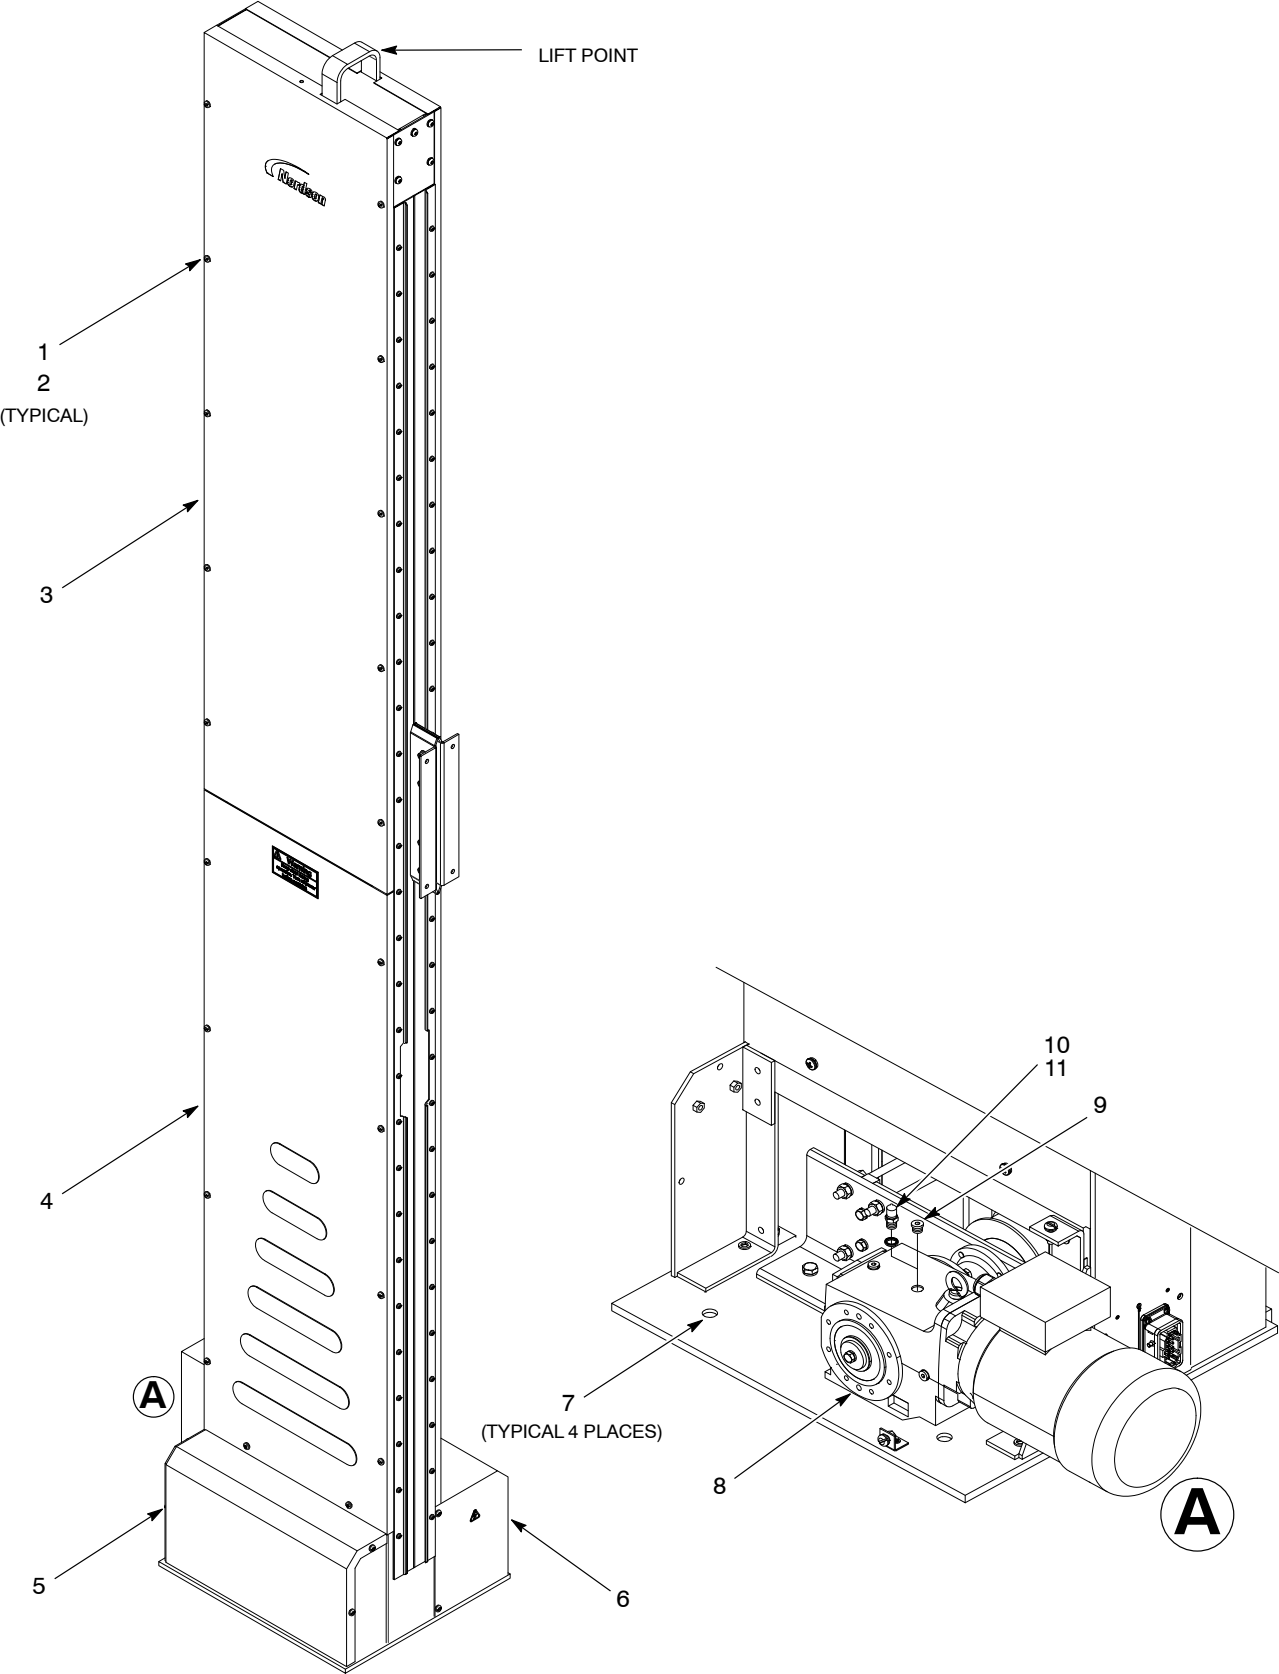

Figure 4 Installation
1. See Figure 4. Remove the screws (1) and washers (2) securing the side access panels (3, 4) on the encoder side of the reciprocator, the encoder cover (5), and the drive assembly cover (6).
3. If mounting the reciprocator the floor or fixed stand, use the existing four mounting holes (7). If necessary, drill new holes into the base or floor. Use properly sized fasteners to secure the reciprocator.
4. Remove the plug (9) from the gear motor (8) as shown on Figure 4.
5. Make sure that the gasket (11) is installed onto the vent plug (10). Install the vent plug into the drive assembly and tighten securely.